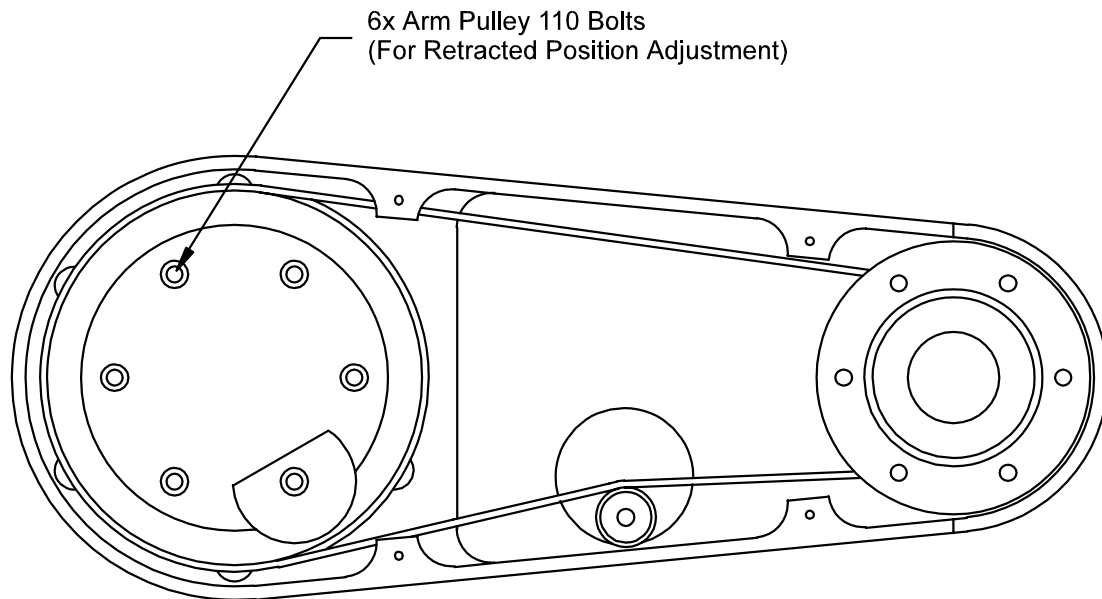

Figure 9-19: Arm Showing Arm Pulley Bolts
1. Loosen the screws on the big pulley inside the lower link of the R axis as shown in Figure 9-19 on page 9-39.